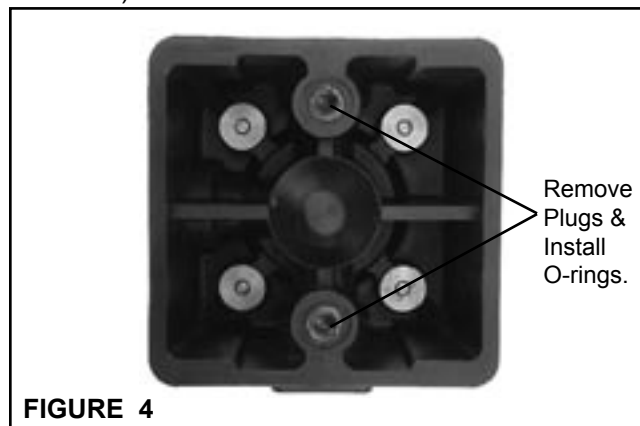

FIGURE 4
3. Remove Plugs from underside of EN40 and install O-rings provided in parts bag (See Figure 4).